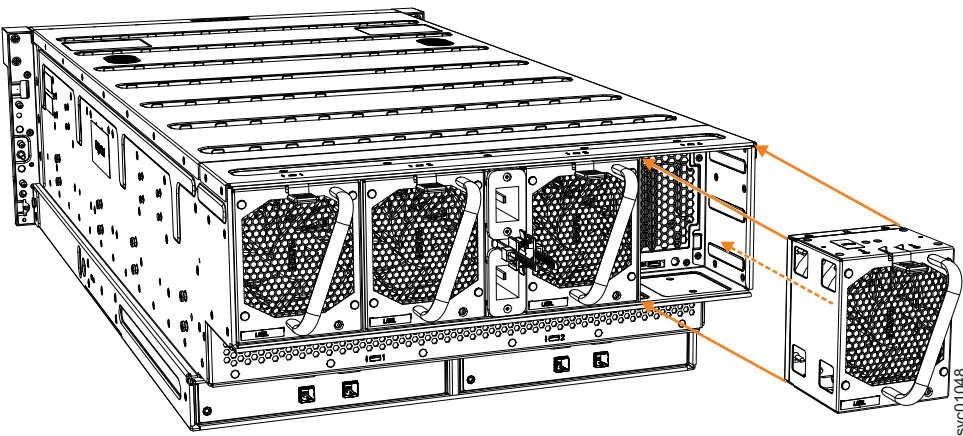

Figure 99. Replace fan module
2. Carefully insert the fan module into the chassis until it clicks in place, as shown in Figure 99.